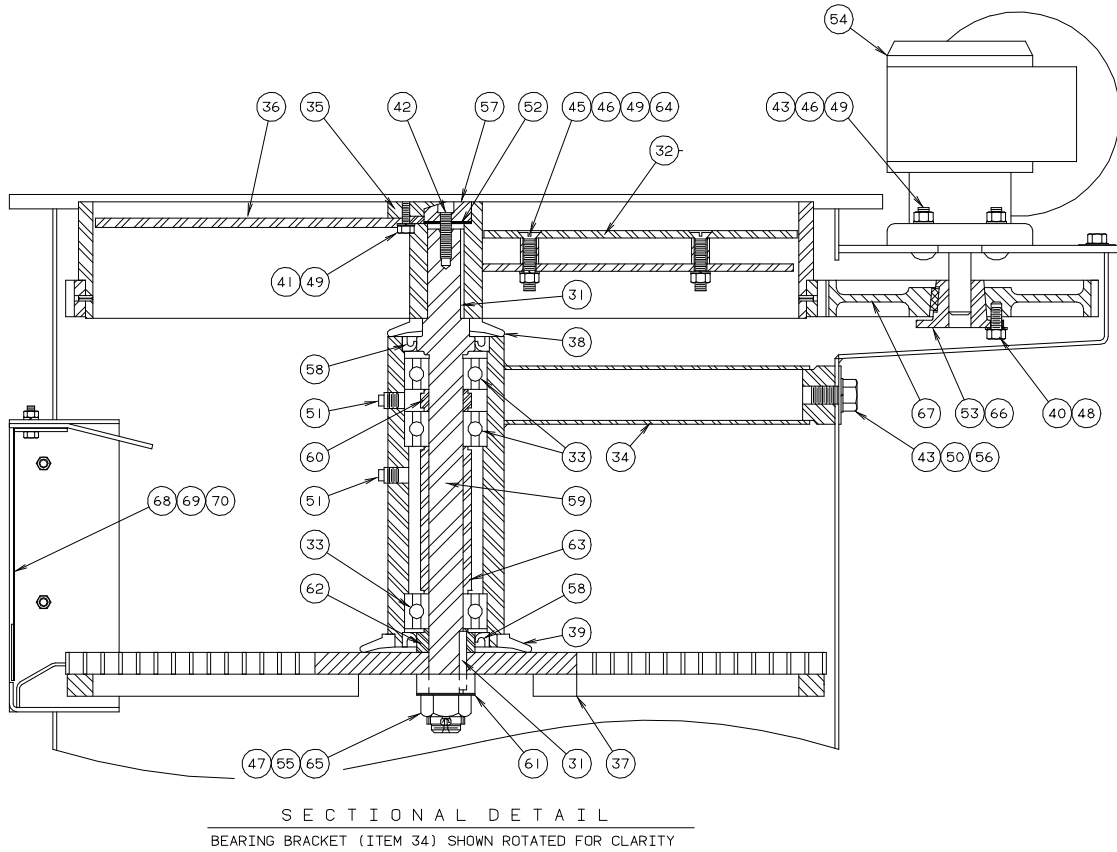

Figure 9-5A
The cutter motor and gear reducer (54), Figure 9-5A, drive the ring gear of the cutter assembly. It is important that the teeth of the drive gear and the ring gear mesh properly both vertically and horizontally. The drive gear and hub can be raised or lowered on the gear reducer shaft to obtain maximum vertical tooth engagement and the reducer assembly can be moved in or out horizontally to obtain the proper tooth depth for maximum gear life.